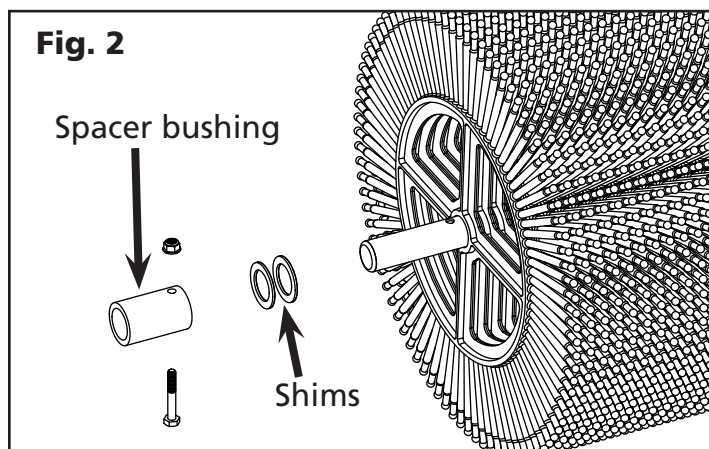

Fig. 2
2. (Fig. 2) Attach the handlebar to the main assembly using the four 5/16-18 x 2 inch flange head screws.
2. (Fig. 2) On one side of the wheel stack use the two 7/16 inch wrenches to remove the 1/4-20 x 1 3/4 inch bolt and the 1/4-20 inch nylon lock nut. Then, slide the spacer bushing and shim off the wheel stack axle.
2. (Fig. 2) On one side of the wheel stack use the two 7/16 inch wrenches to remove the 1/4-20 x 1 3/4 inch bolt and the 1/4-20 inch nylon lock nut. Then, slide the spacer bushing and both spacers off the wheel stack axle.